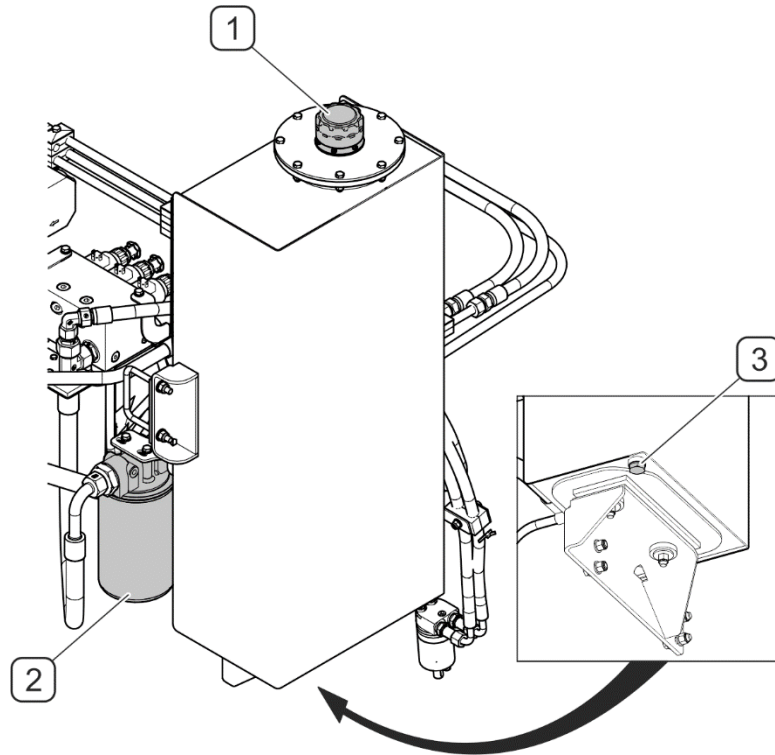

FIGURE 5.5 Change of oil and oil filter
- Unscrew filler plug (1) and oil drain plug (3) (FIGURE 5.5).
- Unscrew contaminated filter cartridge (2).
- Check the filler plug seal (1), confirm that vent openings in the plug are not blocked. Tighten the plug.
Cartridge of oil filter (FIGURE 5.5) should be replaced every 500 engine working hours or once a year.